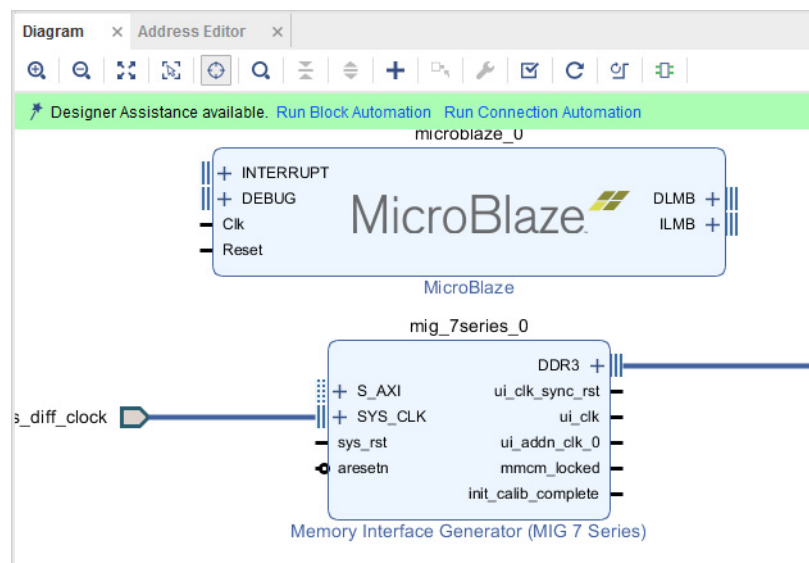

Figure 6-11: Instantiate and Run Block Automation on the MicroBlaze
4. Add the MicroBlaze processor to the design and run Block Automation, as shown in the Figure 6-11.